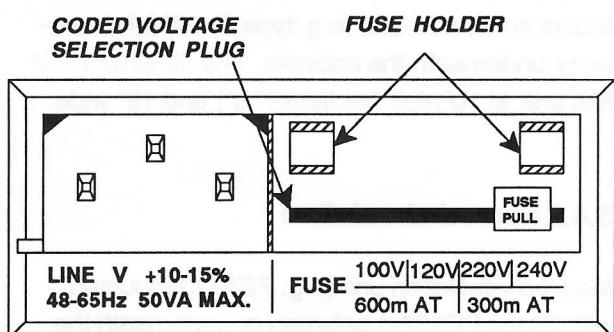

Fig. 5-1 Mains connector.
- Slide the protective plastic cover to the left to expose the fuse and coded mains plug. See fig. 5-1.